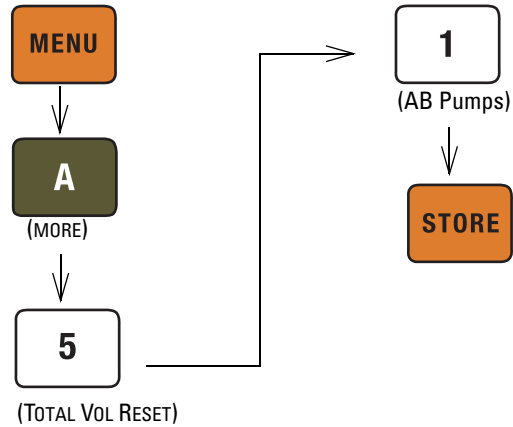

Figure 4: Keystrokes to reset volume totalizer
3. Reset total volume (see Figure 4).
5. Reset total volume (see Figure 4).